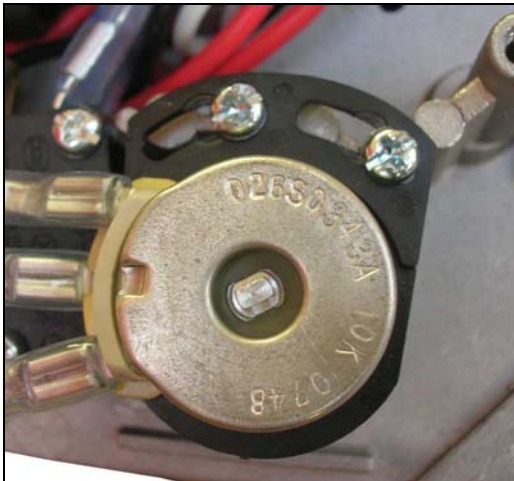

Fig 5
- If the unit is at max elevation, turn the pot counter-clockwise until the screws are completely to the right side of the pot slots (Fig. 5). Tighten the screws.